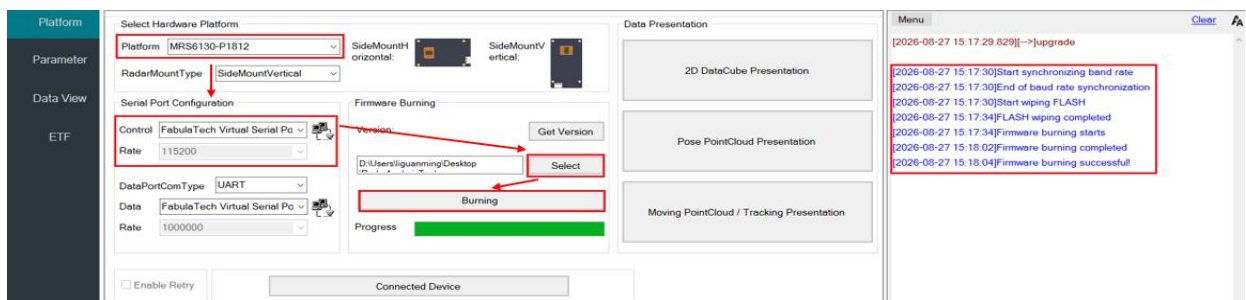

Figure 2-6 Firmware Burn Page
9. A successful result is shown in Figure 2-6. After the burn is complete, power-cycle the development board to activate the new firmware.